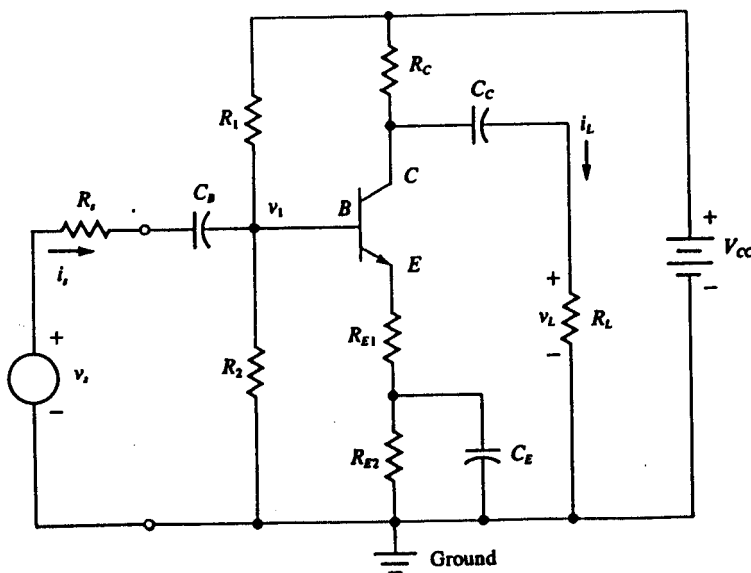

Figure 3.
- Following Figure 3, use any small signal transistor equivalent circuit model to process the problems:
- Draw the a.c. equivalent circuit of Fig. 3.